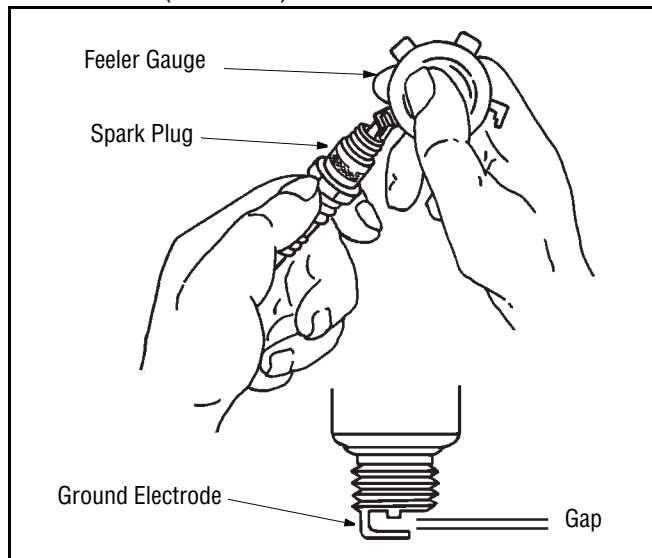

Figure 15
- Check the gap using a feeler gauge and adjust, if necessary, by carefully bending the ground electrode. See Figure 15. Set the spark plug gap to 0.030 in. (0.76 mm).